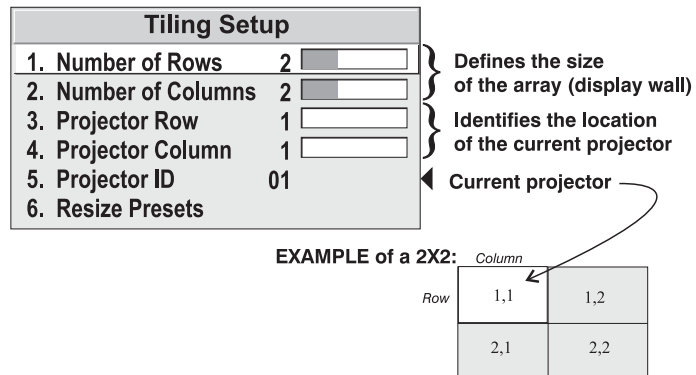

Figure 3.26. Tiling Setup
Enter the total number of rows and columns in the display wall by adjusting the sidebar for each of these menu items. See Figure 3.26.
start numbering in the top-left corner (this display will be 1,1) and work across and down until you reach the bottom right corner. See Figure 3.26.
This is a read only item that shows the ID of the projector for which you are defining its location in the *Tiling Setup* menu. See Figure 3.26., item 5.